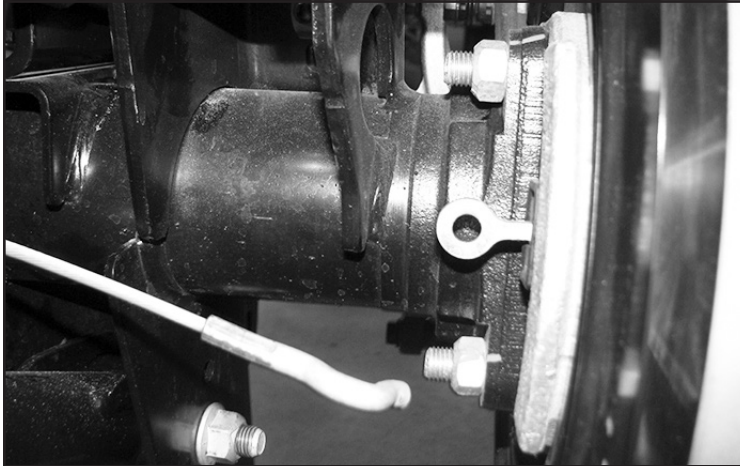
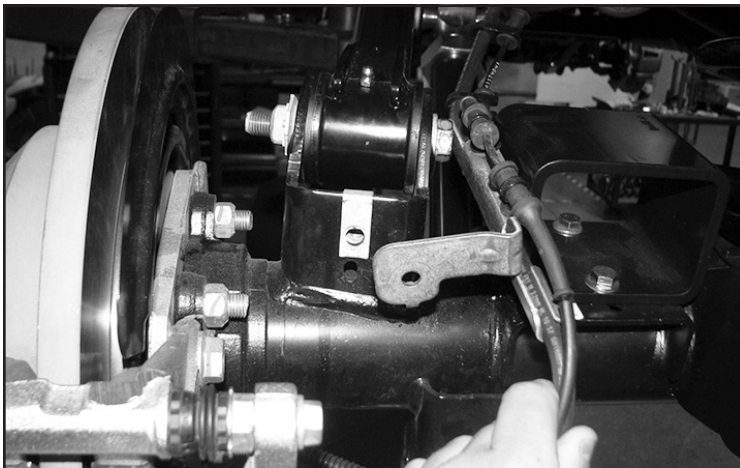

FIGURE 24 - STEP 26
FIGURE 25 - STEP 26
26. Disconnect the e-brake cables behind the rotor. **SEE FIGURE 24.** Next, Disconnect the brake line from the axle link pocket. **SEE FIGURE 25.**